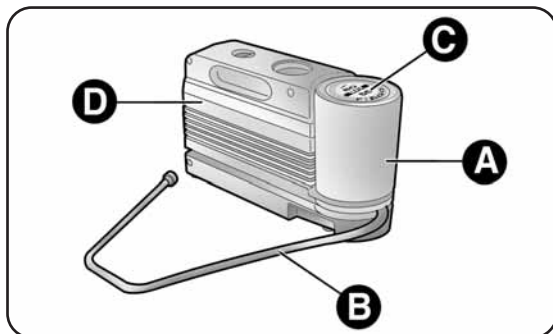

fig. 13
- a cylinder A-fig. 13 containing sealing fluid and fitted with: a filling pipe B and adhesive label C with the words "max. 80 km/h", to be attached in a position easily visible to the driver (on the dashboard) after tyre repair;